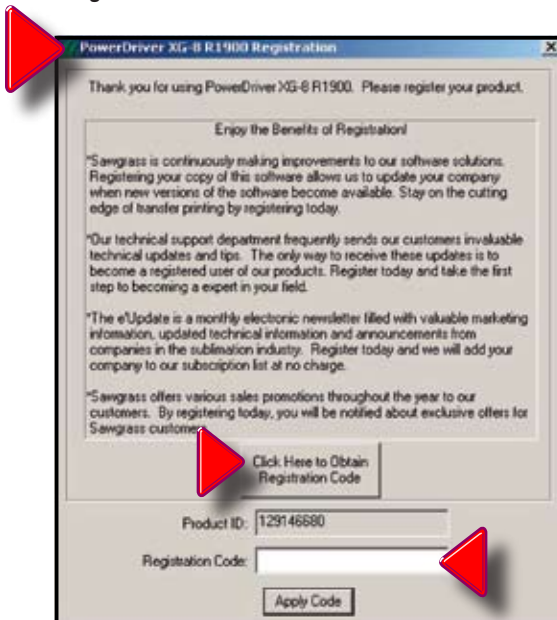

Figure 2
8. In the **Power Driver XG[®] R1900 Registration Screen**, (**Figure 2**), you will use your **Product ID** (displayed at the bottom of **Figure 2**), to obtain a **Registration Code**. You will need a separate **Registration Code** for every machine on which **PowerDriverR1900XG[®]** is installed. In **Figure 2**, click on the button labeled “**Click Here to Obtain Registration Code**”.